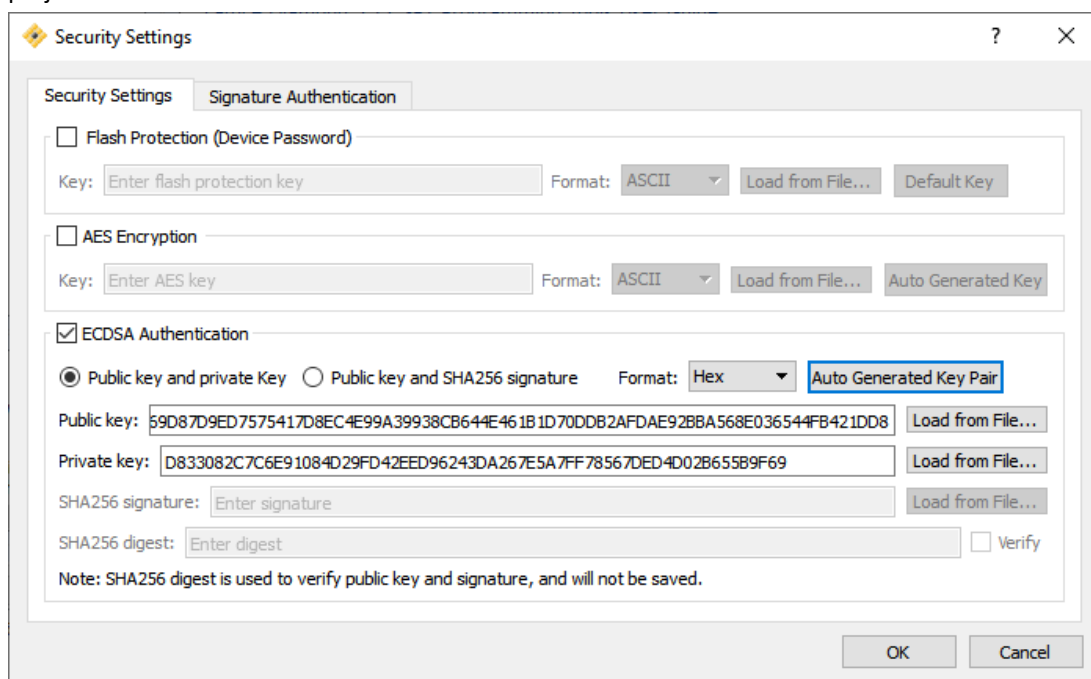

Figure 3.3. Select Auto Generated Key Pair
- In the Security Setting pop-up, select **ECDSA Authentication**. Click on **Auto Generated Key Pair** shown in Figure 3.3. A public/private key pair will be generated. These settings are sticky and will only need to be completed one time for this design project.